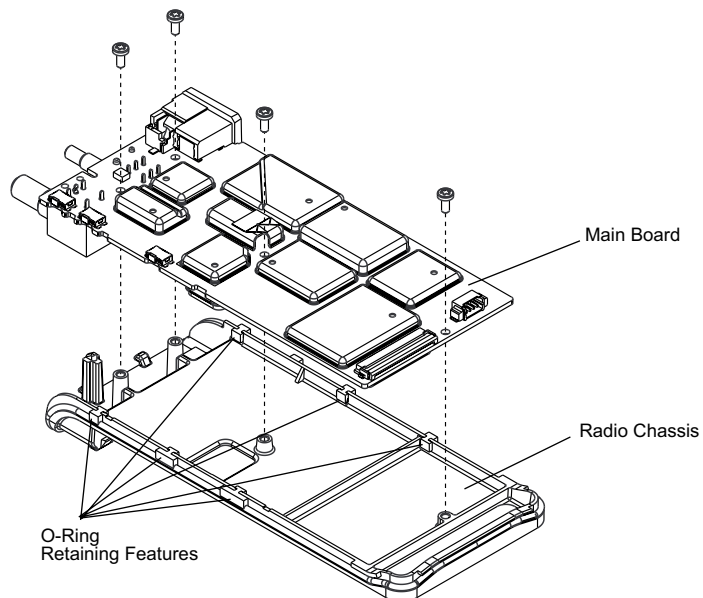

Figure 4-5 Remove Main Board from Chassis
1. Lift the main board from the chassis (See Figure 4-5).